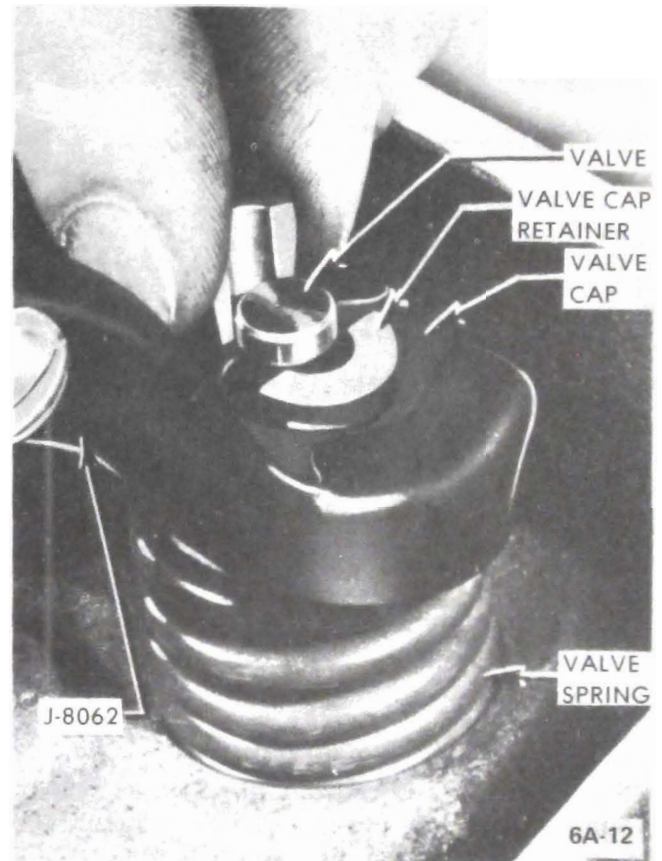

Figure 6A-12 - Removing Valve Cap Retainers.
2. Using suitable spring compressor, such as J-8062, compress valve spring and remove valve spring cap key. Release tool and remove spring and cap. See Figure 6A-12.